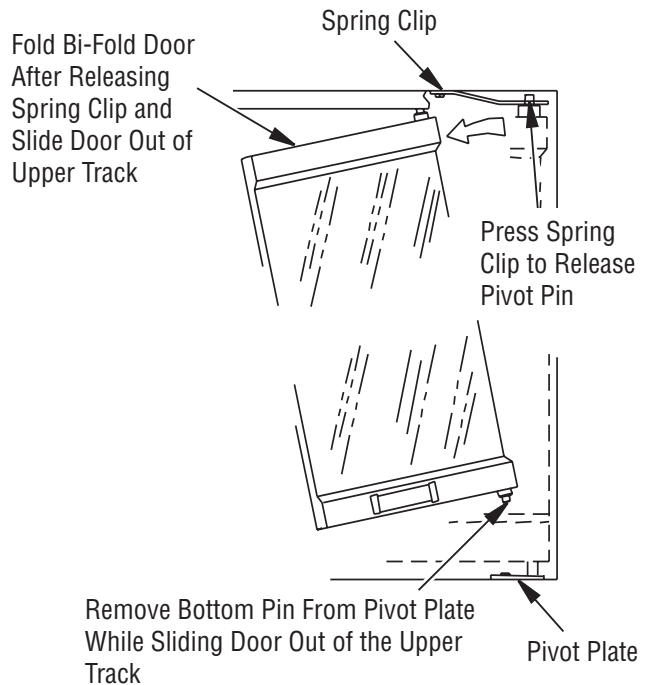

Figure 34 - Removing Glass Doors
2. Fully fold frame assembly and slide upper edge towards center of firebox opening until guide pins are free of frame rail (see **Figure 34**).